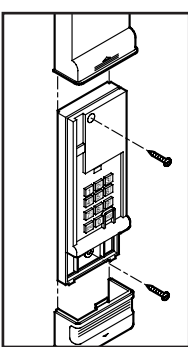

Fig. 2
- Slide Keypad Cover up and pull off of Wireless Keypad. Slide off Battery Cover and remove battery. **Fig. 2.**